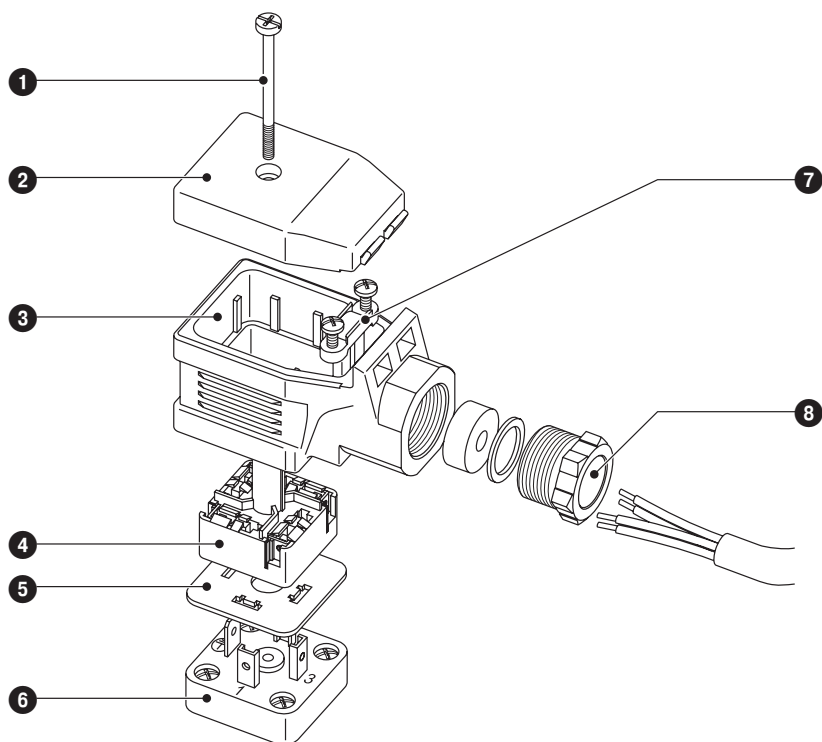

Fig. 10
1. Undo the screw **1**. **Fig. 10**